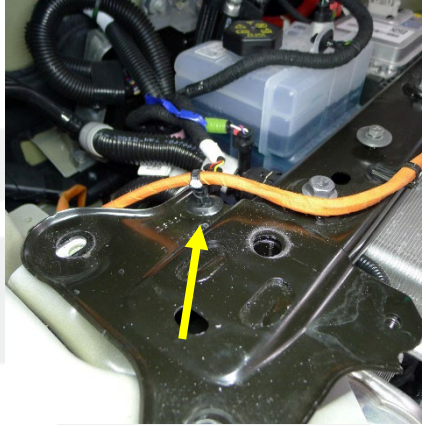

Figure 1
4. Release the clip that attaches the HV harness to the shock tower brace (Figure 1).